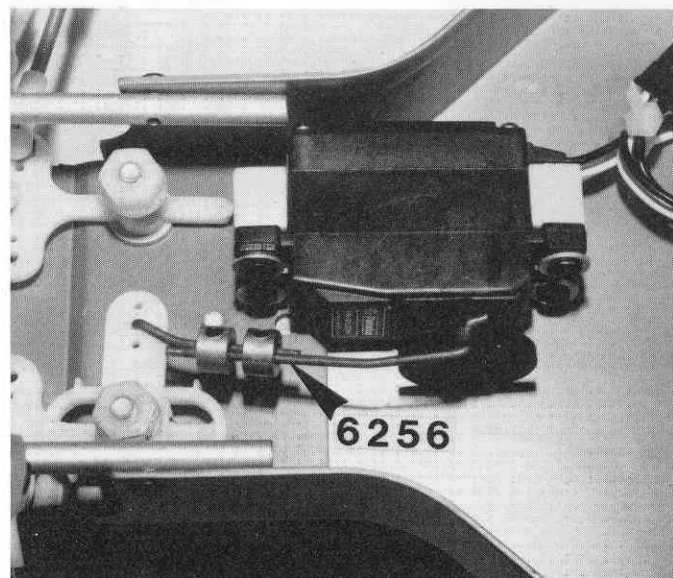

Fig. 143
□ **Fig. 143** Out of Bag #6-2, take the piano wire linkage and set collars. Turn the servo output arm to the left and right stops and then center the arm between these 2 stops. It will not be exact, but it will be close enough for now. We'll center it exactly with the radio later. Slip one of the "Z" bend arms in the servo arm, as shown. The "Z" bend arm will be easier to install in the servo saver arm if you take your X-acto knife and rotate it in the hole to bevel it slightly. The arrow in the photo is pointing to a slight bend that we want to put in this wire to help clear the collars from the servo. Put a slight bend in the arm and then slip it in the center hole, as shown. Center the servo saver and install and tighten both lock collars.